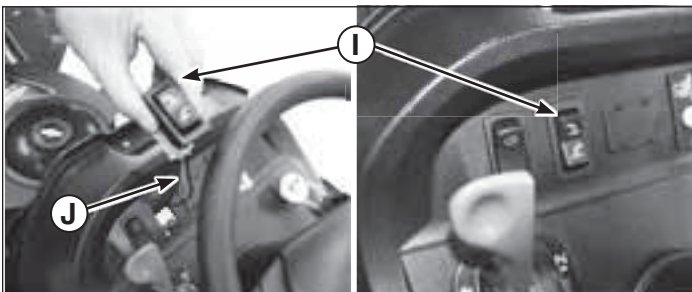

Figure 20
3. Route the upper wiring harness (J, Figure 20) and switch (I) through opening in dashboard. Snap switch into dashboard to secure.